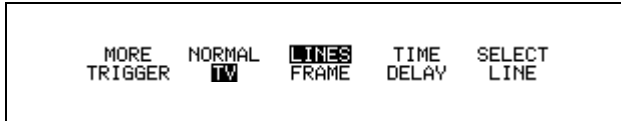
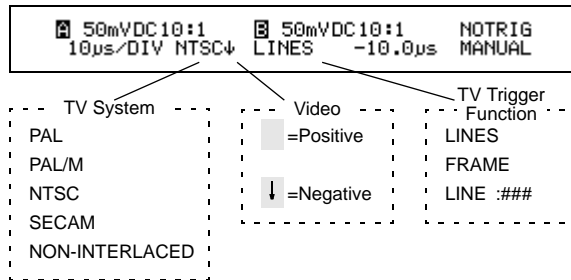

Figure 5-12. TV Trigger Menu
Figure 5-13. TV system and trigger function indicator
To use the TV trigger function, press **TRIGGER**; then press **F2** to open the TV trigger menu shown in Figure 5-12. You can select one of the following three TV trigger functions:
The TV system setting is shown at the top of the display, as shown in Figure 5-13.
1. From the TV Trigger Menu (see Figure 5-12):
To activate the LINES trigger function, open the TV trigger menu (see Figure 5-12); then press  to highlight LINES. The top of the display now indicates the Lines function (see Figure 5-13).
To activate the FRAME trigger function, open the TV trigger menu (see Figure 5-12); then press  to highlight FRAME. The top of the display now indicates the Frame function (see Figure 5-13)
To select a line, refer to Figure 5-12 and do the following: